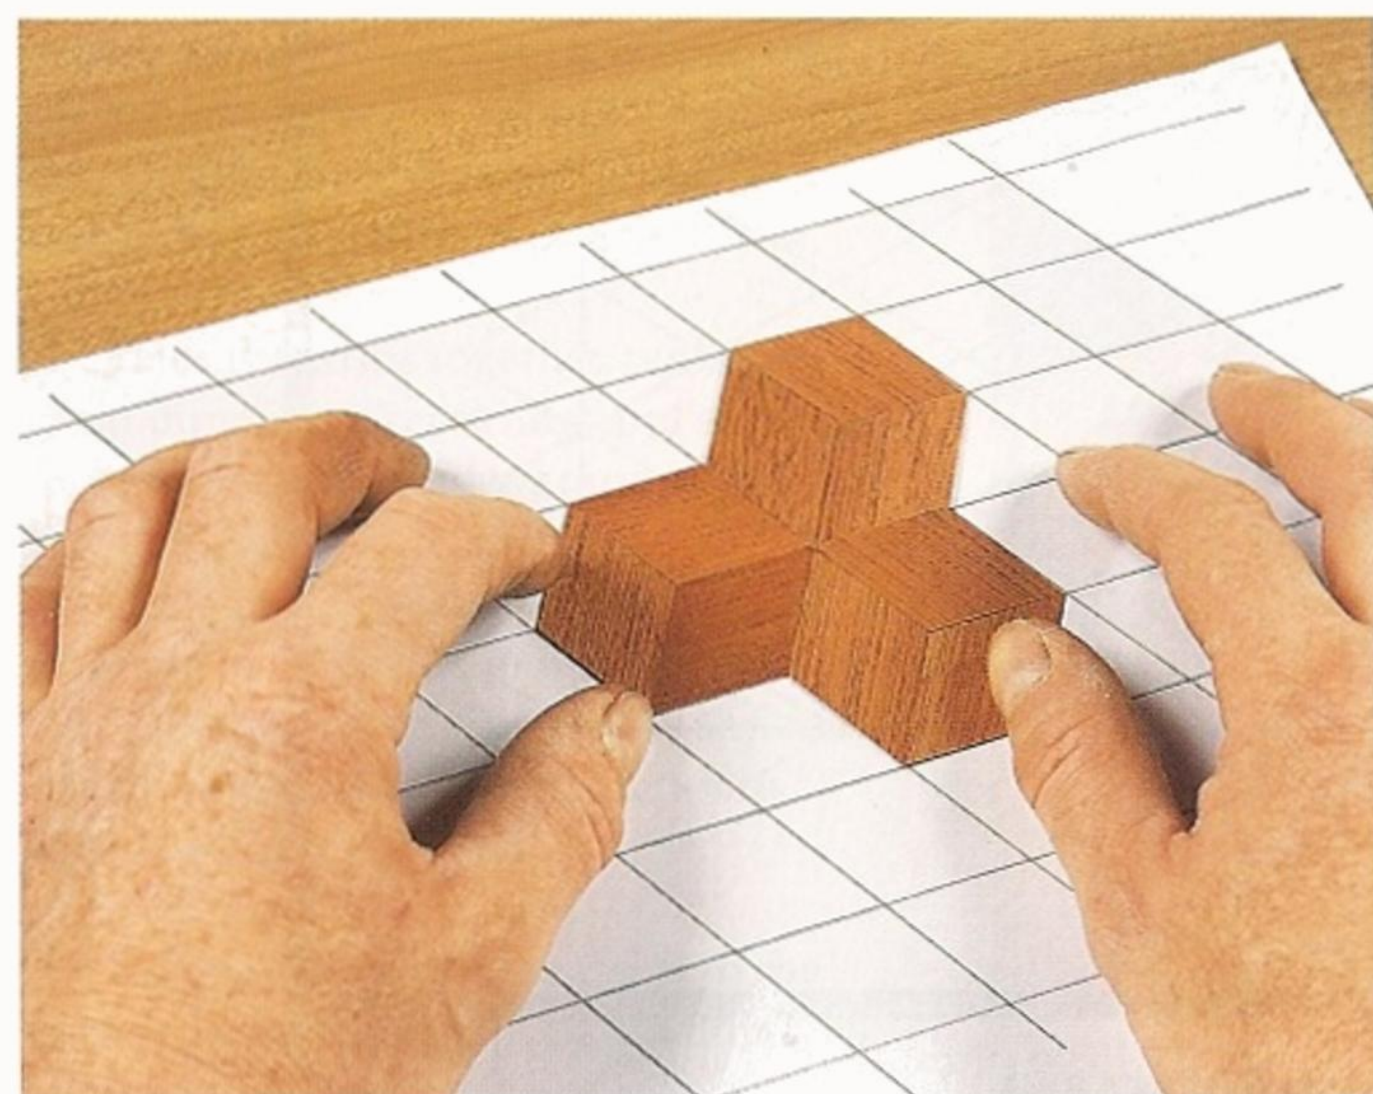

Fig 8.20 Assembling cubes to make up the design.
- 4 Assemble the cubes on the template. This may be done in one of two ways. The first is to assemble each individual cube, and then to fit these together on the template (*see* Fig 8.20). The second is to assemble the whole pattern by fitting the diamonds individually. This second method carries an increased risk of error because of the differing orientations of the diamonds. Any slight error in the fitting of one diamond throws out the fitting of the rest of the design, so great care is needed in the assembly.